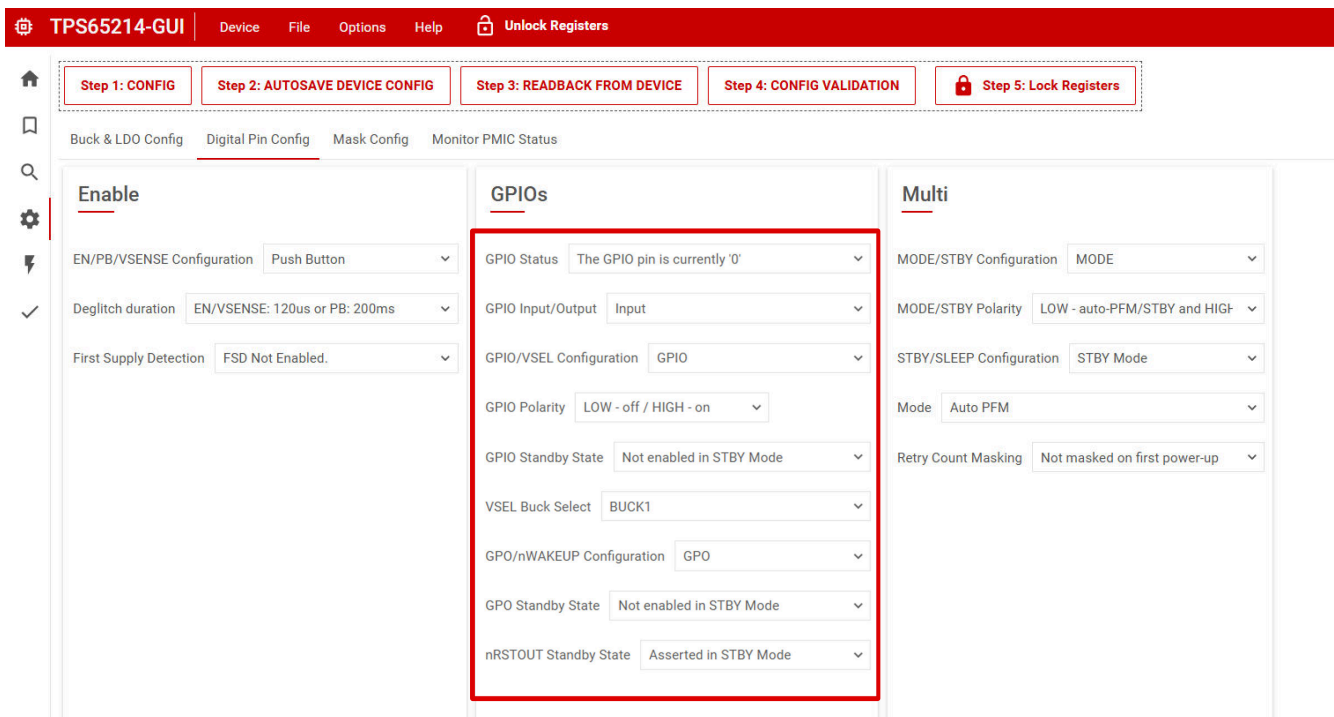

Figure 5-4. GPIOs Configuration
- Figure 5-4 shows the settings to be changed when using the configuration tab of the TPS65214-GUI.